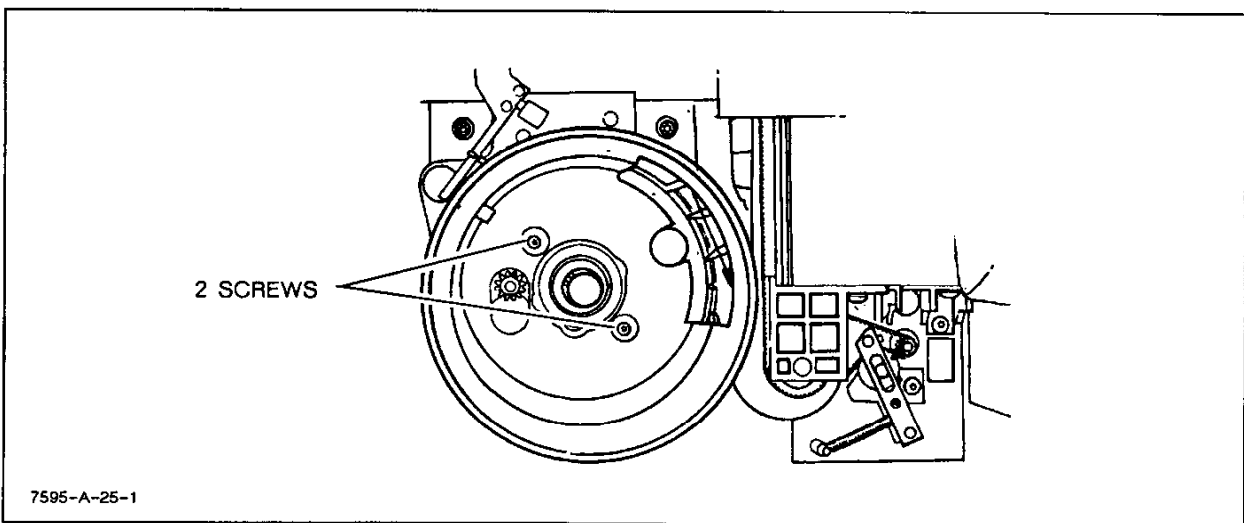

Figure 6-10. Carousel Tub Removal
- a. Turn the plotter line switch to OFF (O) and disconnect the ac power cord.
- c. Remove the two carousel tub mounting screws (Torx #10). See Figure 6-10.